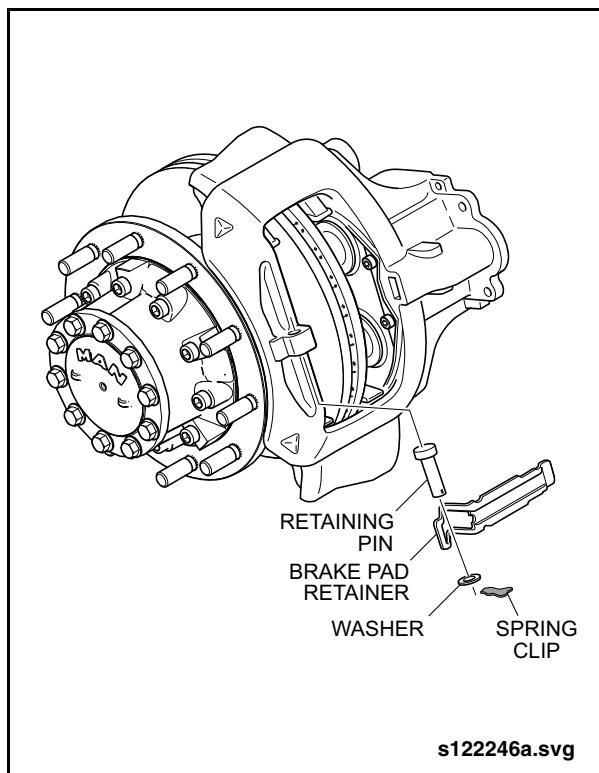

Fig. 2-123: Brake Pad Retainer Installation
- a. Insert the inboard end of the pad retainer into the groove and apply sufficient downward pressure to allow insertion of the retaining pin. See "Fig. 2-123: Brake Pad Retainer Installation" on page 108.